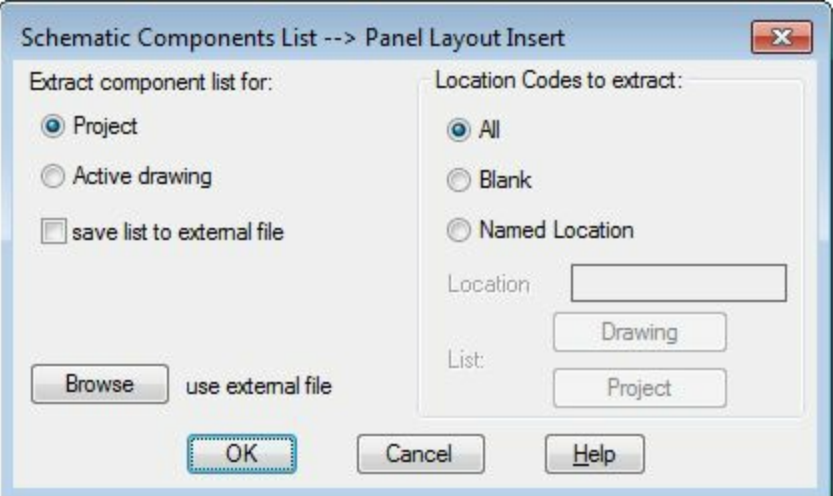

Figure-12. Schematic Components List dialog box
- Click on the **Schematic List** tool from the **Insert Component Footprints** drop-down. The **Schematic Components List** dialog box will be displayed; refer to Figure-12.